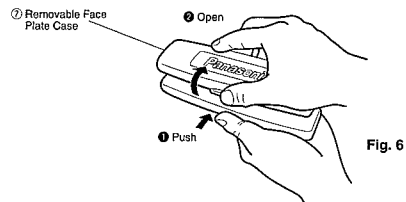

Fig. 6
- As shown in Fig. 6, gently push the lower side of the case and open its cover. Keep the face plate in the case. Then, you can safely take the plate with you.